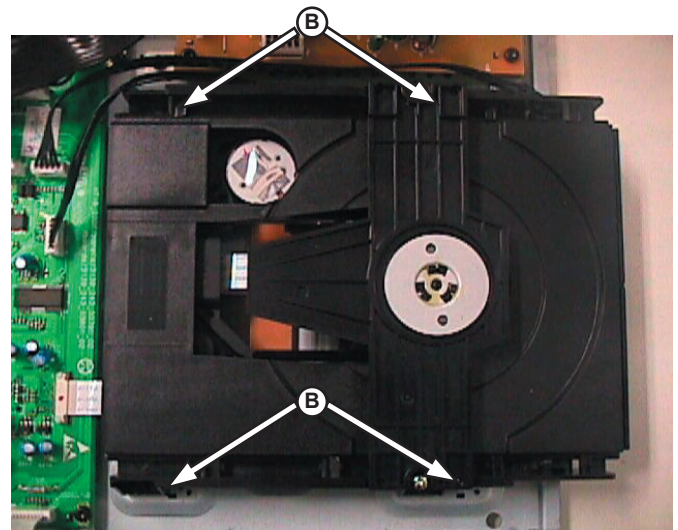

Figure 4-4
- 3) Loosen 4 screws B (See Figure 4-4) to remove the DVD Loader.